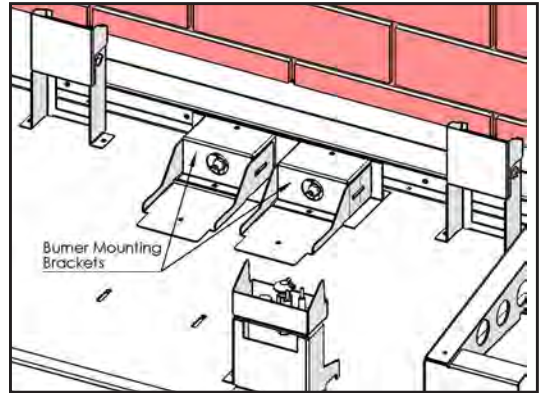

Figure 33: Burner Mounting Brackets
1. In the bottom rear of the firebox there are two (2) gas orifices in a housing that facilitate the air shutter mechanisms and the Burner Mounting Brackets are above them (See Figure 33). There are two (2) mixing tubes underneath the back of the burner (see Figure 34). Lift the burner into the firebox with the back of the burner tilted downward. Keep the burner high enough at the front to clear the pilot assembly. Line up the mixing tubes with the holes in the burner mounting brackets and slowly lower the front of the burner over the pilot assembly (see Figure 35).